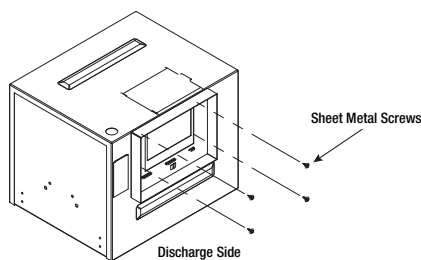

Figure 3 — Remove Ventilator Discharge
1. Remove Dayton® ventilator outlet by removing the (4) sheet metal screws that hold the duct discharge on the housing. Shown in Figure 3.